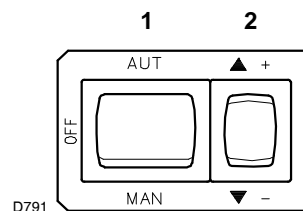

Fig. 35
Close the control devices and set switch 1)(Fig. 35) to “MAN”.
In the above instructions we left the burner running in MIN. output operation. Now press button 2)(Fig. 35) “increase output” and keep it pressed until the servomotor has opened the air gate valve and the gas butterfly valve.
Press button 2)(Fig. 35 at page 29) "output reduction" until the servomotor has closed the air gate valve and the gas butterfly valve to 30° (factory set adjustment).
- If it has to be increased press the button "output increase" 2)(Fig. 35 at page 29) (i.e. open the gas butterfly valve by 10-15°), increase the cam III angle (Fig. 37) with small successive movements, i.e. take it from angle 30° to 32° - 34°.... Then press the button "output decrease" until the servomotor is taken to the minimum opening position and measure the gas delivery.
Press the key 2)(Fig. 35 at page 29) "output increase" a little so that the servomotor turns by about 15°.
- Switch off the burner using switch 1)(Fig. 35 at page 29), at OFF position;